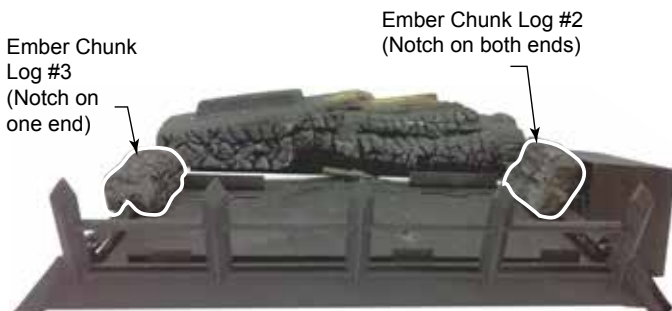

Figure 44
2. Place the ember chunk (#2) with notch on both ends on the grate bar right side of the burner adjacent to the controls. Push towards rear as far as possible. *Figure 44*
3. Place the ember chunk (#3) with notch on one end on the grate bar left side of the burner with notch towards rear. Push towards rear as far as possible. *Figure 44*